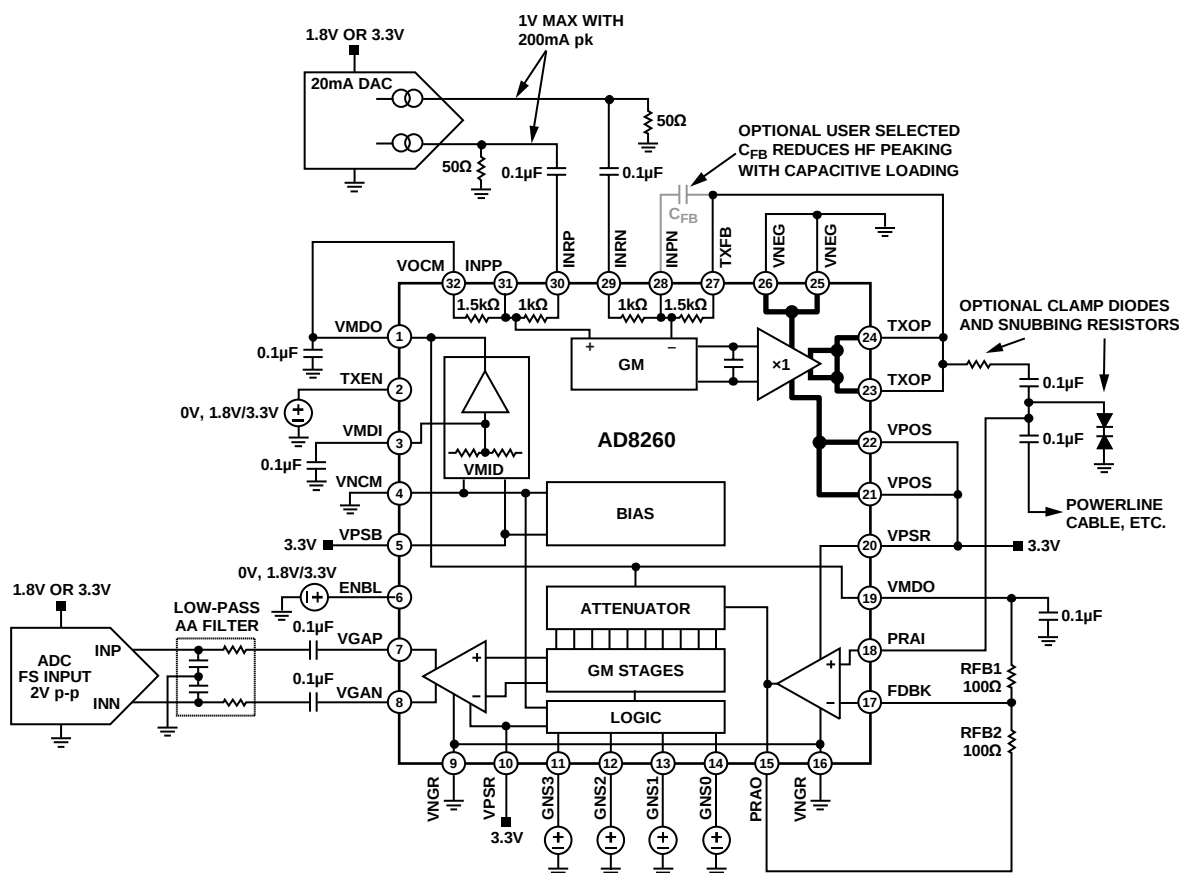

Figure 64. Block Diagram and Basic Application Connections
The AD8260 is a self-contained transceiver intended for analog communications using a power line as the media. Operating on supplies as low as 3.3 V, it includes a high current driver usable as a transmitter and a low noise digitally programmable variable gain amplifier (DGA), usable as a receiver (see Figure 64). An uncommitted current-feedback high frequency op amp acts as a preamplifier and interface to the DGA and is user configured for gains greater than 6 dB. Combined, the VGA and preamplifier are usable at high signal levels from dc to 100 MHz, with a small-signal -3 dB bandwidth of 230 MHz. To implement a high current-output VGA, the VGA output can be connected to the driver-amplifier differential input.
4-bit parallel interface. Figure 64 shows the circuit block diagram and basic application connections, and illustrates the envisioned external DAC, ADC, and power-line bus interface connections. The diagram shows the connections for single 3.3 V supply operation; if a dual supply is available, the VMID generator can be shut down and Pin VMDI, Pin VMDO, and Pin VOCM need to be grounded. Note that Pin VNCM functions as the negative supply for the bias and VMID cells, plus the logic interfaces, and should always be tied to ground.
For optimal dynamic range, it is important that the inputs and outputs to both the driver amplifier and the preamplifier and the DGA output amplifier be ac-coupled in a single-supply application. In Figure 64, the DAC and ADC are presumed to operate on a 1.8 V or 3.3 V supply with a corresponding limited output and input swing. The DAC outputs are currents that point down and generate a voltage in the $50\ \Omega$ resistors that are connected to ground. The maximum voltage with a peak DAC output current of 15 mA is 0.75 V; if a DAC with a 20 mA peak current is used, then the maximum voltage is 1 V per side for a differential input signal of 2 V p-p.
The high current driver amplifier can deliver very large output currents suitable for driving complex impedances, such as a power line, a 50 Ω line, or a coaxial cable. The input of the amplifier is fully differential and intended to be driven by a differential current-output DAC, as shown in Figure 64. The differential input signal is amplified by 1.5 $\times$ and produces a 2.25 V p-p single-ended output signal from a 1.5 V p-p input signal. A DAC with 15 mA maximum output current into a 50 Ω load provides 1.5 V p-p of input voltage and results in 2.25 V p-p at the output. A DAC whose output is 20 mA produces an output swing of 3 V p-p (neglecting a small gain error when driving the parallel combination of the 50 Ω load-resistor and the internal 1 k Ω gain resistor of the AD8260).
During receive, when the high current driver-amplifier is disabled, its gain setting resistors provide a signal path from input to output. To prevent inadvertent DAC signals from being transmitted while receiving via the preamplifier and DGA, the DAC in Figure 64 must have no output signal.
The VMID buffer is a dc bias source that generates the voltage on Pin 1 and Pin 19, VMDO. Node VMDO cannot accommodate large dynamic currents and requires excellent ac decoupling to ground. A high quality 0.1μF capacitor located as close as possible to Pin 1 and Pin 19 (see Figure 64) is normally sufficient to decouple the high values of current from Node VMDO.
Referring to Figure 64, the signal path consists of a 30 dB programmable attenuator followed by a fixed gain amplifier of 18 dB for a total DGA gain range of -12 dB to $+18\text{ dB}$. With the preamplifier configured for a gain of 6 dB, the composite gain range is -6 dB to $+24\text{ dB}$ from single-ended preamplifier input to differential DGA output.
- Use the internal VMID buffer as shown in Figure 64.